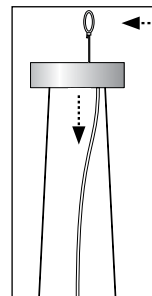

Figure 1: Canopy Cover Removal
1. Disconnect mounting plate from canopy by disengaging magnetic connection and removing canopy screw using 4mm hex wrench. [Figure 1]
2. Steel safety wire fixed to the back of the mounting plate must be firmly secured to suitable structural building component. [Figure 1]